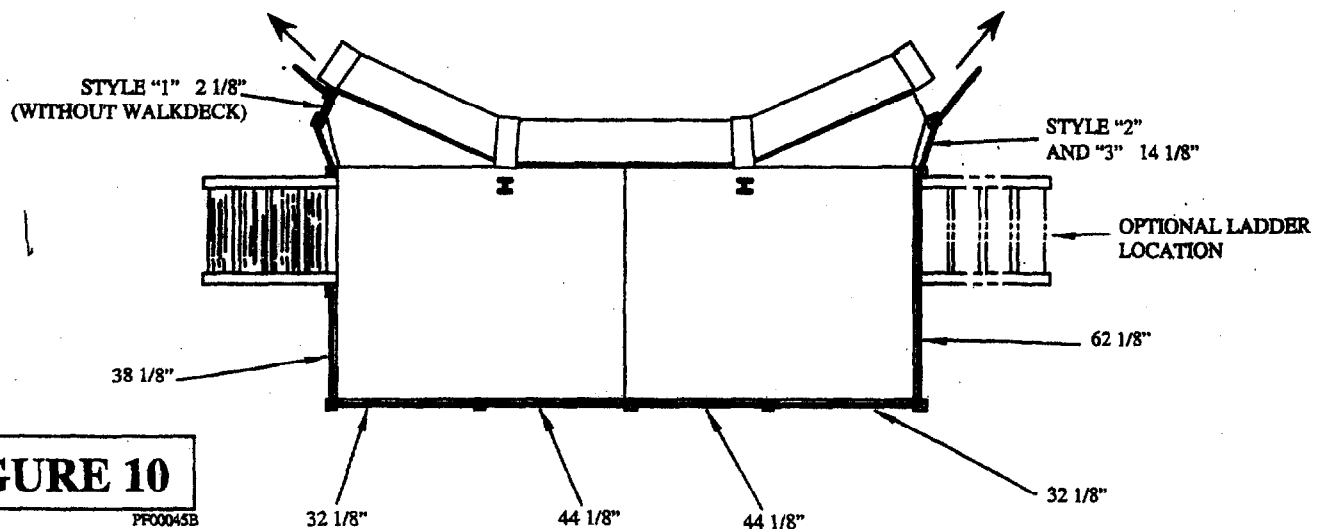

FIGURE 10
Step 9: See Figure 9. Assemble the fence feature strip onto the fence sections by sliding the feature strip into the track along the fence rail. For plastic feature strips, cut excess strip off with scissors, leave about 1" on each side to tuck into the holes on the posts, insert the fence into the clips and fasten using (4) #6 X 3/4" fence screws found in the bolt bag. Continue this step around the entire pool deck. See Figure 10 for the placement of your fence.